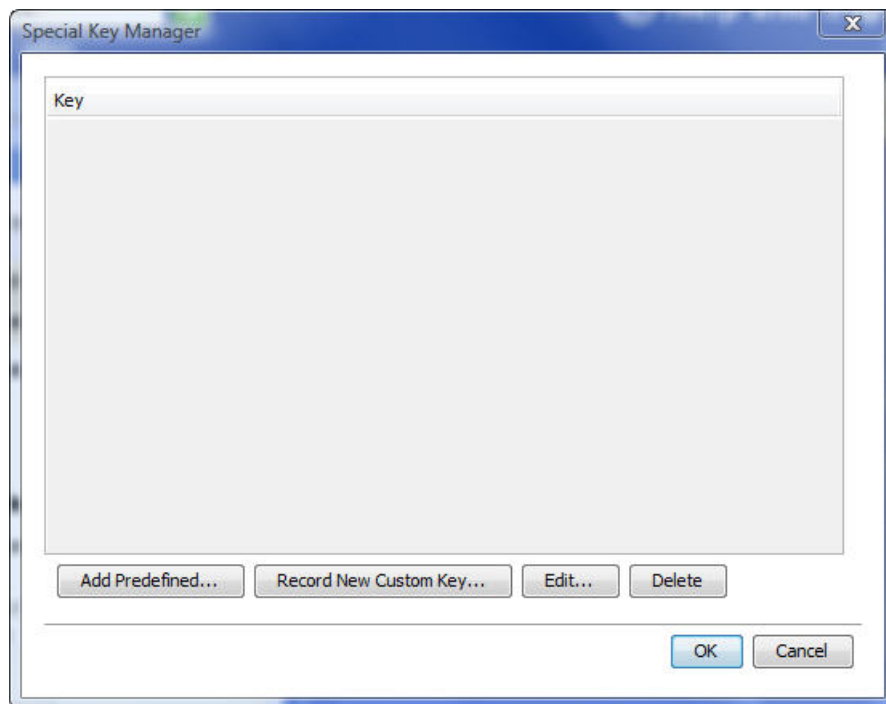

Figure 38 – Special Key Manager
1. In the Special Key Manager box (see Figure 38), click **Record New Custom Key**.
1. In the Special Key Manager box (see Figure 38), select the desired key sequence and click **Edit**.
1. In the Special Key Manager box (see Figure 38), select the desired key sequence(s) to delete. Select a group of keys by selecting the first key in the group, pressing the **Shift** button, and then selecting the last key.